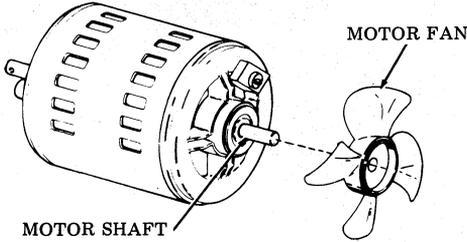

Fig. 36
5.12 Check for free rotation of motor shaft. Check for cracks on motor fan. (See Fig. 36.) Replace if necessary. If motor fan is replaced, perform MOTOR FAN SPACING adjustment.